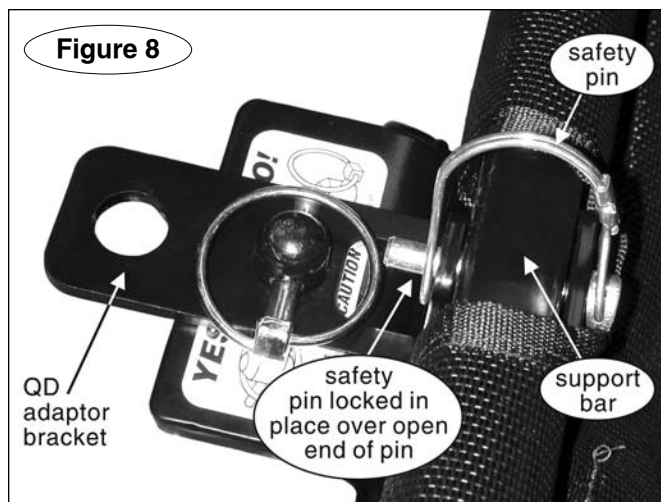

Figure 8
8. Unfold the Tow Defender until the support bars are over both QD adaptor brackets (Figure 8). Rotate the support bars, if necessary, so that the pre-drilled holes in the support bars align to the pre-drilled holes in the QD adaptor brackets. Then fit the support bars into the slots in the adaptor brackets, as shown in Figure 8. Next, insert the two safety pins (Figure 8) through the pre-drilled holes in the support bars and the QD adaptor brackets, and lock them in place, as shown in Figure 8.
Note: the safety pins can only be attached with the open end facing the towed vehicle, as shown in Figure 8.
If the safety pins are not locked in place as shown in Figure 8, the Tow Defender will separate from the towed vehicle, which may cause significant damage to the towed vehicle or the Tow Defender.